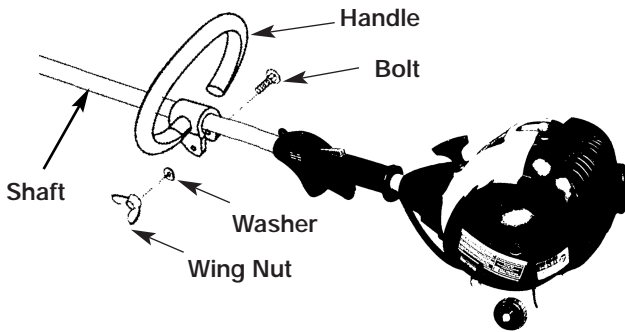

Fig. 1
2. Insert the bolt through the handle in secure it with the washer an wing nut (Fig. 1).